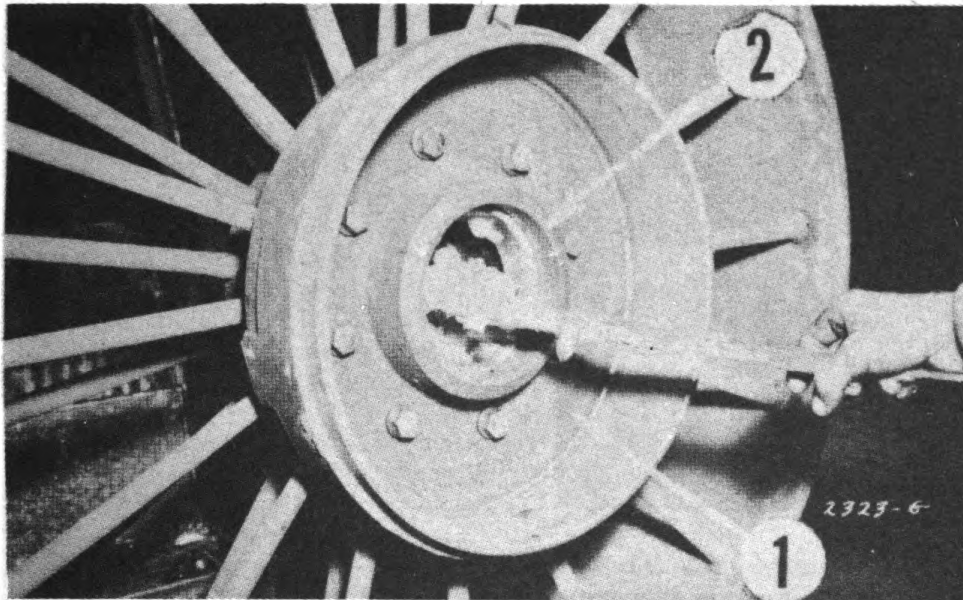

Figure 14. BRAKE DRUM
1. Bolt brake drum (1) to wheel hub (2). See Figure 14.